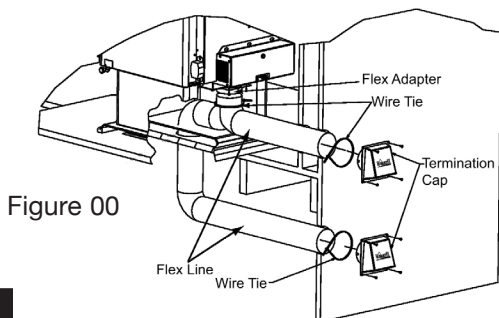

Figure 00
3. Using a #2 Phillips screw driver attach the flex pipe to the flex adaptor on the stove using a pipe clamp. Figure 00.